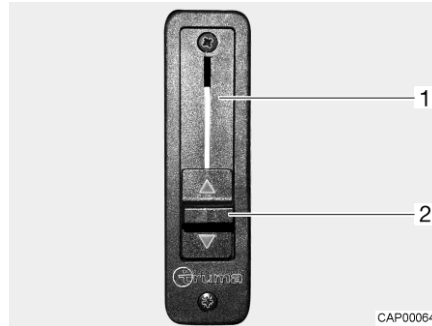

Fig. 5 Sliding regulator for branch block
- Opening branch block:* ■ Push the sliding regulator (Fig. 5,2) fully upwards. The branch block (Fig. 5,1) is open. The living area heater also heats the windscreen.
- Closing branch block:* ■ Push the sliding regulator (Fig. 5,2) fully downwards. The branch block is closed. The living area heater and the heater of the base vehicle are disconnected from each other.